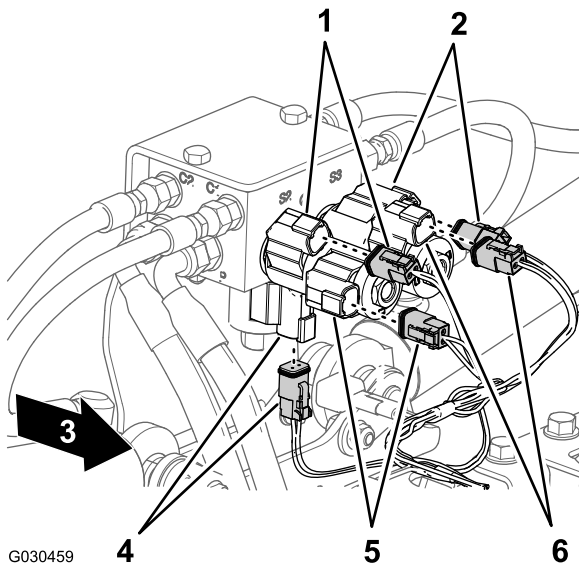

Figure 24
4. For machines without the ultra-sonic boom kit—at the back of the machine, disconnect the following 2-socket connectors (Figure 24) for the lift-cylinder manifold as follows: